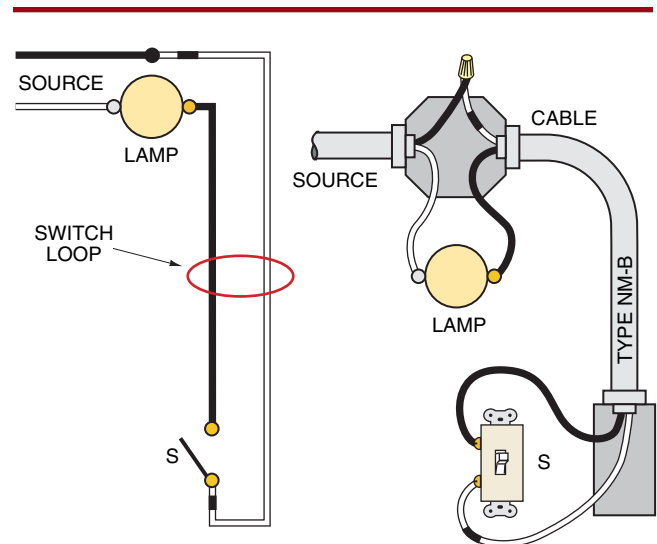

Figure 5-14 Single-pole switch in circuit with feed at light.
Single-Pole Switch, Feed at Light. In Figure 5-14, the 120-volt source enters the outlet box at the lamp. The switch loop is a 2-wire cable. The white wire of a cable is permitted in 200.7(C)(2) to be used as the supply (feed) to the switch. When so used, 200.7(C)(2) requires that the white conductor be permanently reidentified in the ceiling outlet box and in the device box. The white conductor is not permitted to be used as the return (switch leg) from the switch to the switched outlet. Color plastic tape is most often used to reidentify a conductor. For this diagram, black tape would be suitable.